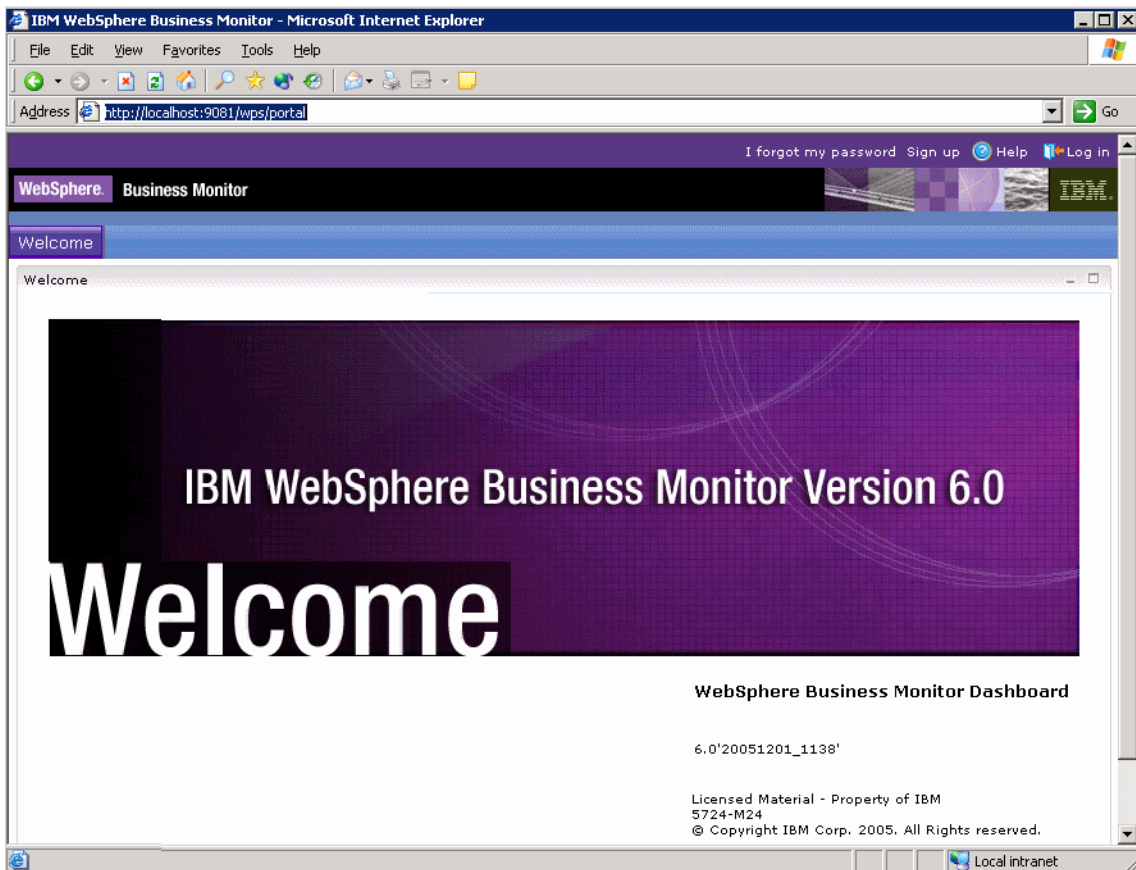

Figure 12-25 Monitor Dashboard Login
- ▶ Click *Log in* at the top right Figure 12-25().